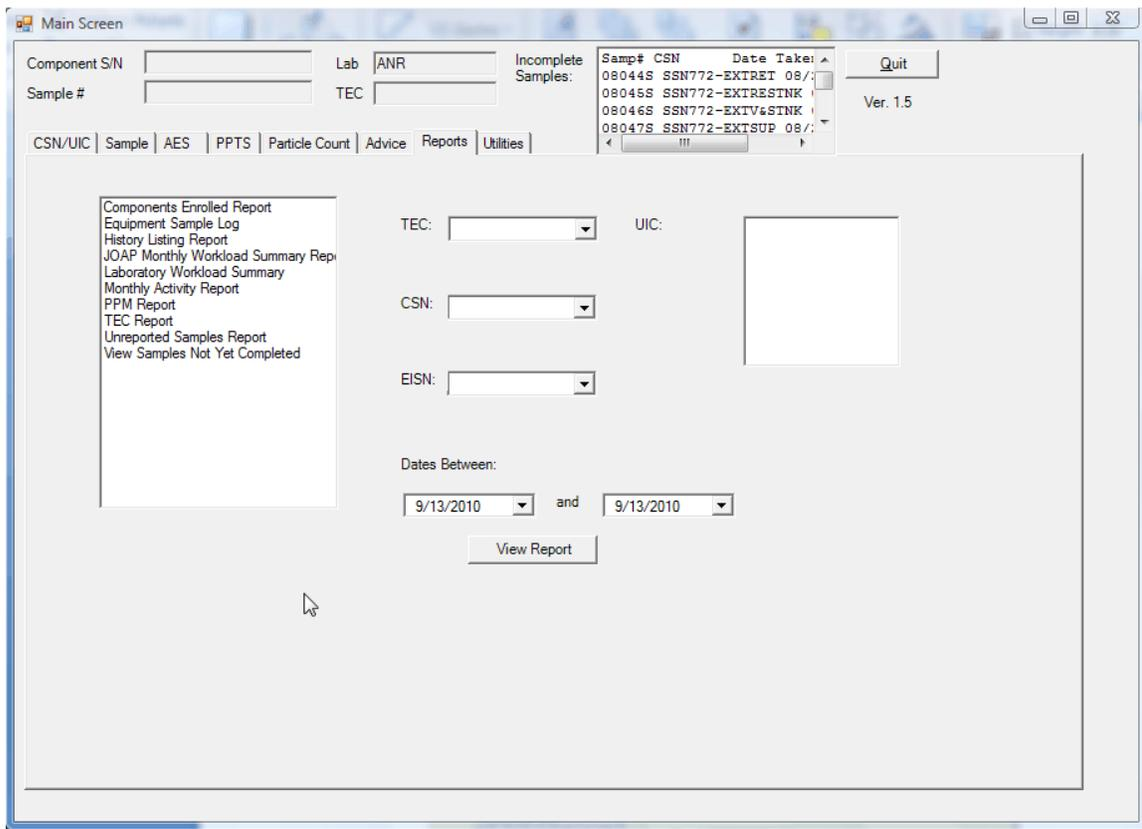

Figure 41. Reports Tab
- a. Components Enrolled Report. From the main screen press the Reports tab and the following screen will appear (Figure 41).